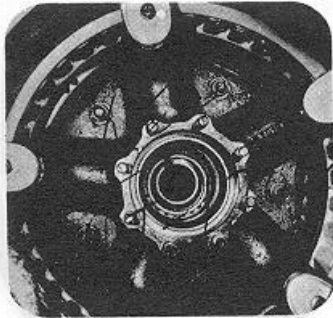

Fig. 11
- Using a wheel dolly place wheel on spindle; care must be taken not to damage the seal, especially on the leading edge of the spindle or axle (Fig. 11).